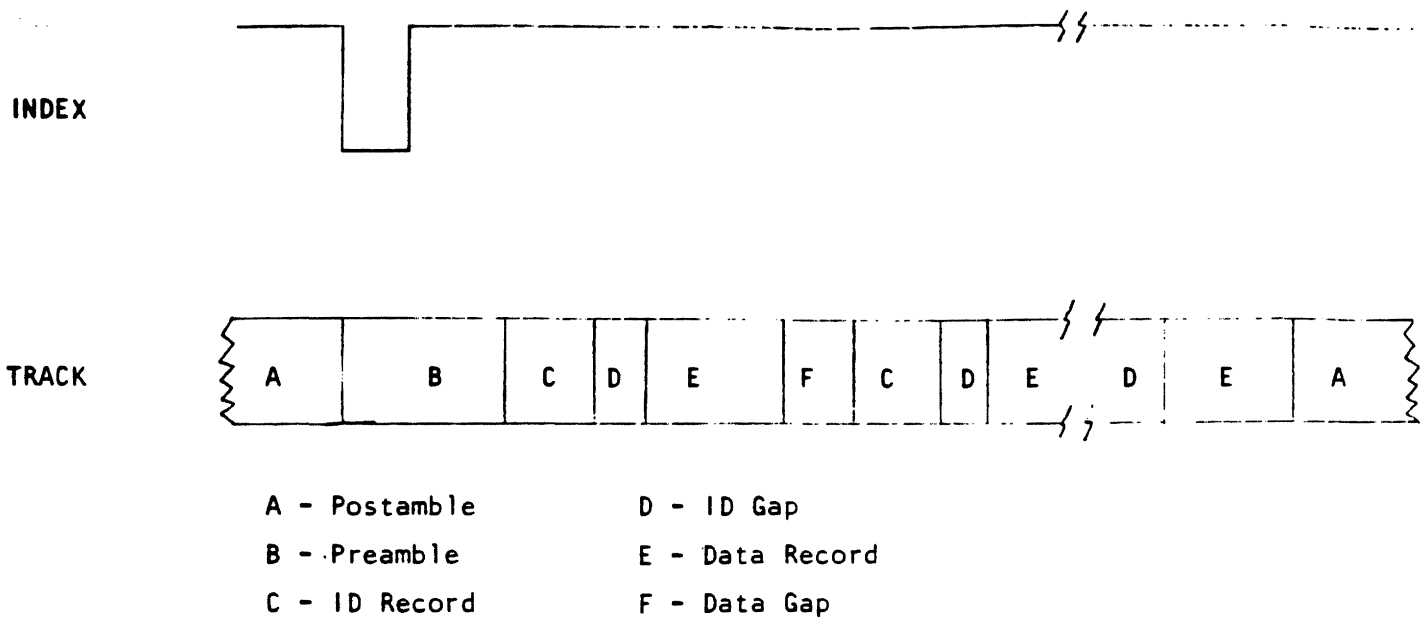

Figure 7-1: Typical Track Format
- A. Postamble (see Figure 7-1): The postamble period must be at least 3 milliseconds to allow for a spindle speed variation of  $\pm 1\frac{1}{2}\%$ .